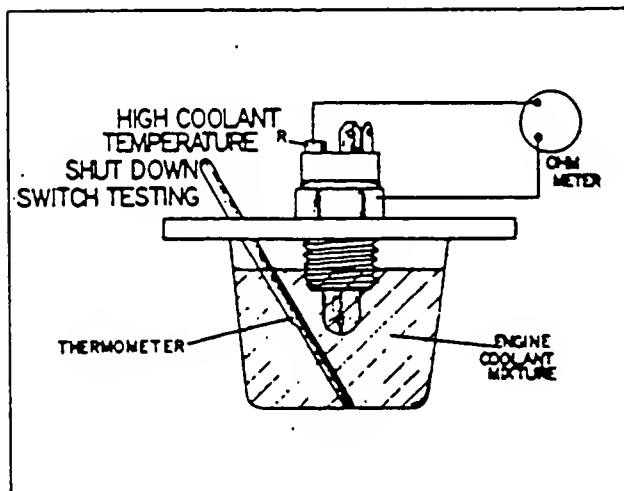

Figure 3. Testing Coolant Temperature Switch
2. **Testing with Switch Removed:** Disconnect Wire 85, remove the switch and test as follows (see Figure 3):